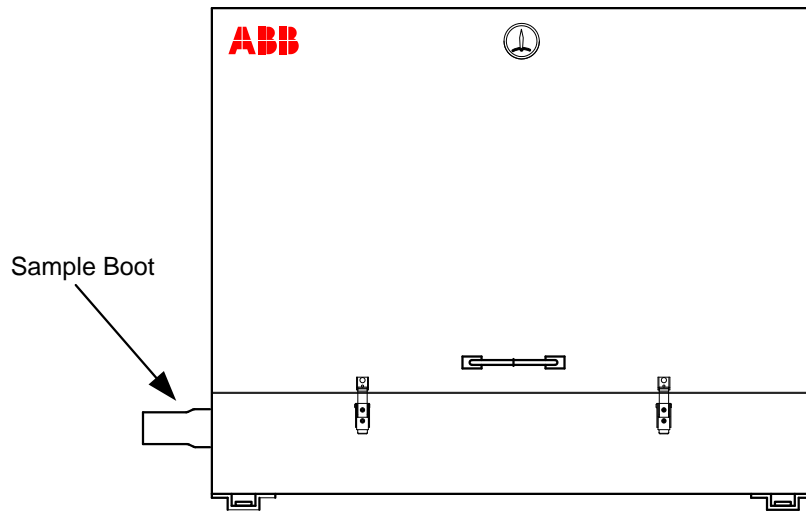

Figure 3-26 ENC82L–Environmental Enclosure Sample Boot
- 1) Locate the sample input fitting on sample conditioning module (see Figure 3-26) and sample output fitting on installed sample probe..